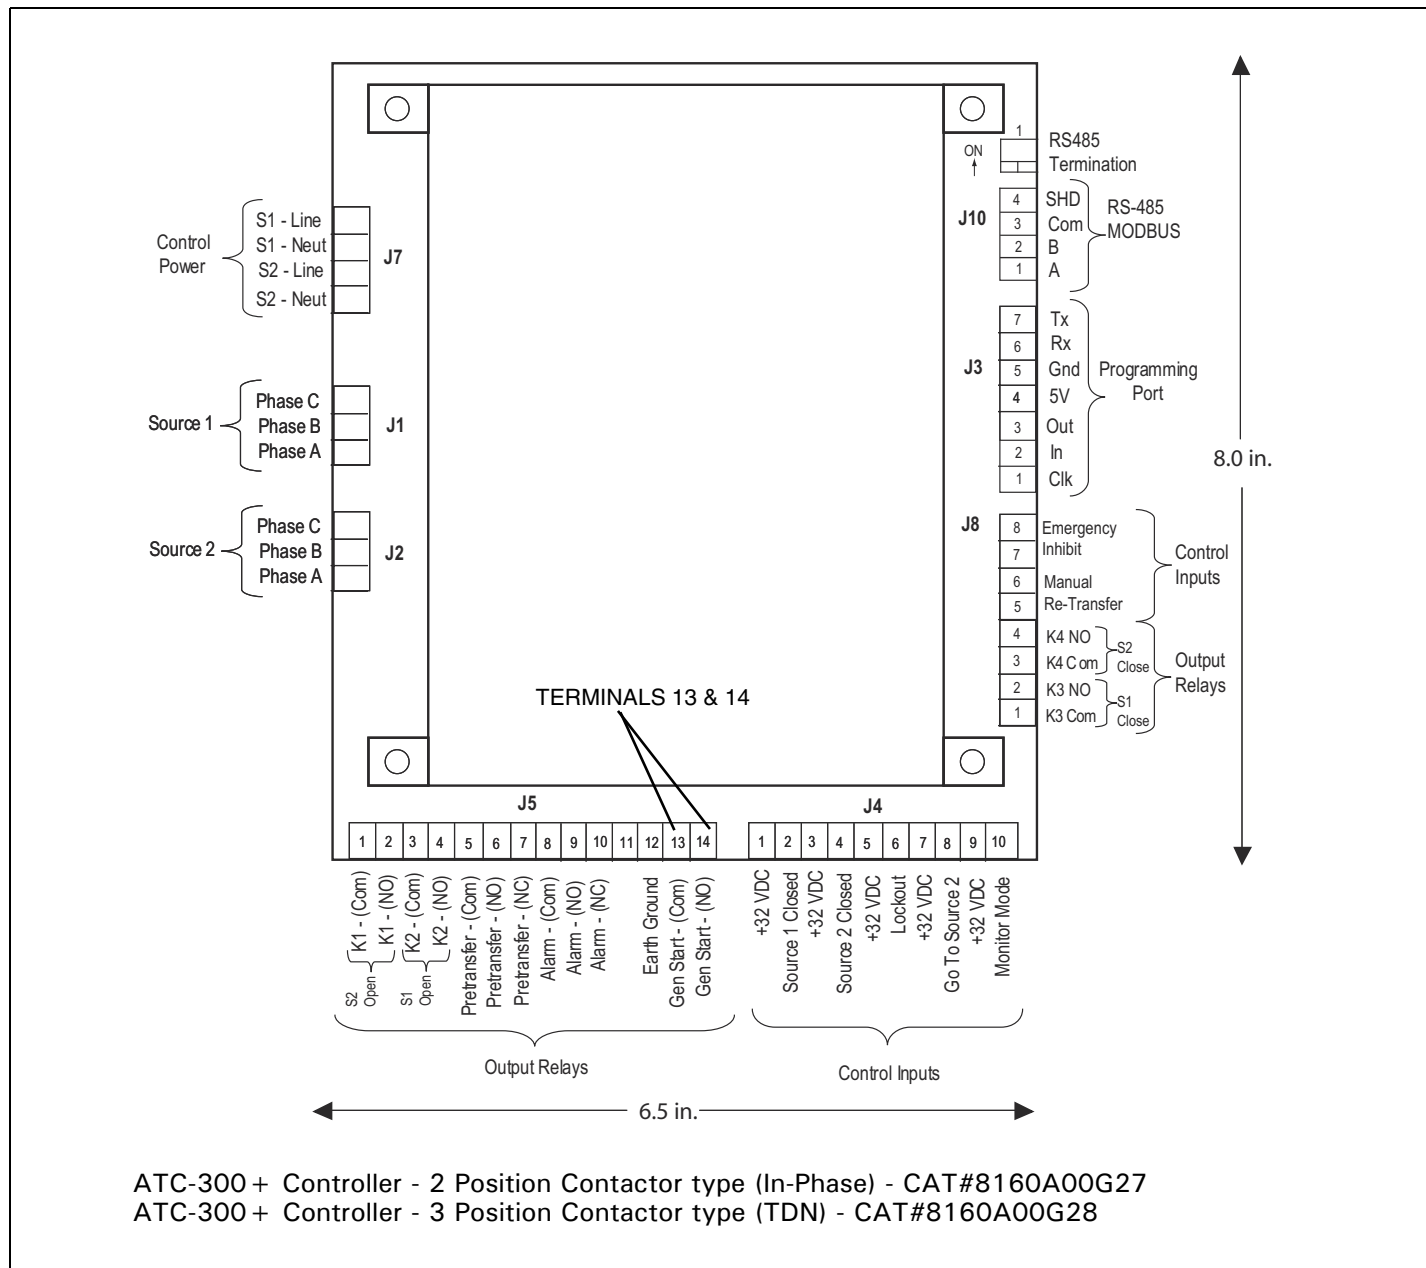

Figure 24. Engine Generator Control Connection.
Step 4: Connect the Engine Generator Start wires to terminals 13 and 14 on the J-5 connector on the ATC-300+ Controller (Figure 24). This contact is CLOSED whenever